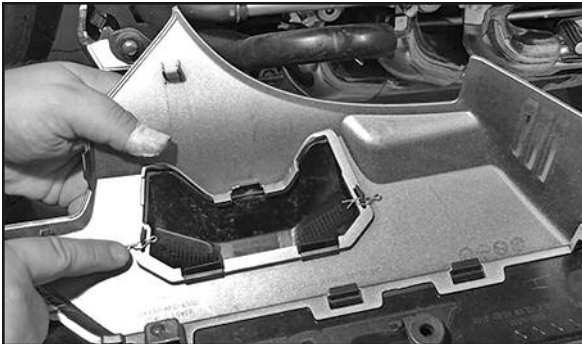

Figure 3
3. Remove pins from inside of Valve Cover. **Figure 3**
5. Re-install the Black Cover onto the Valve Cover using the pins removed in Figure 3. **Figure 10**